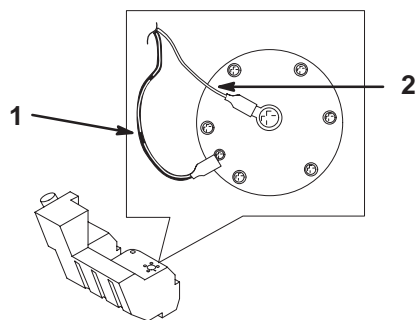

Figure 48
12. Disconnect the two wires leading to the right side of the tank (Fig. 48).
19. On the right side of the tank, connect the orange wire to the center post and the black wire to the outside post (Fig. 48).